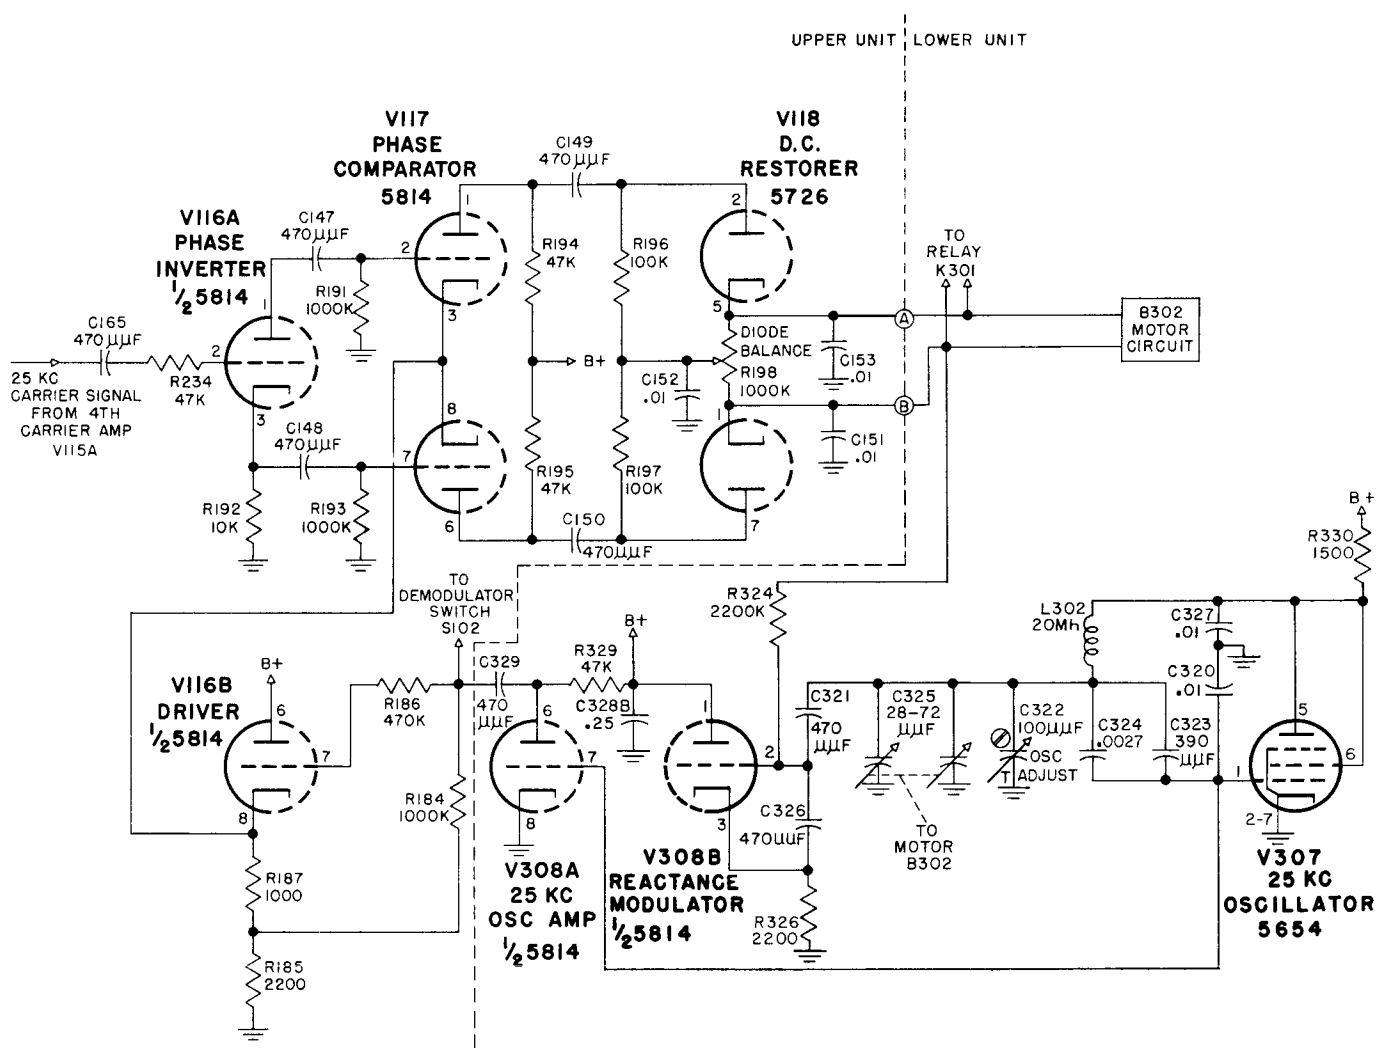

Figure 2-15. Local (25-Kc.) Oscillator AFC Circuits, Simplified Schematic Diagram
The elements of the local oscillator AFC circuits are shown in the simplified schematic diagram, Figure 2-15. Essentially, the circuit compares the input IF carrier (25-kc.) with the local oscillator signal. If
(1) PHASE INVERTER V116A. (See Figure 2-15.)
(6) OSCILLATOR AMPLIFIER V308A AND DRIVER V116B. (See Figure 2-15.)—The local oscillator signal, which is compared with the carrier signal in phase comparator V117, is applied to the latter through oscillator amplifier V308A and driver V116B.